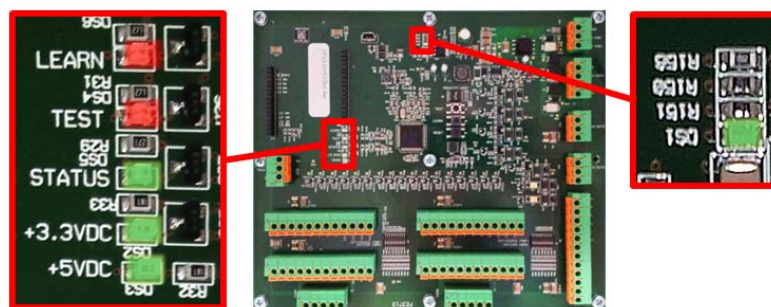

Figure 10 – LED Locations on Controller Board
- Check the sensor connections by blocking each sensor one at a time (if possible). The **TEST** LED should turn on when each sensor is blocked (see Figure 10 – LED Locations on Controller Board).